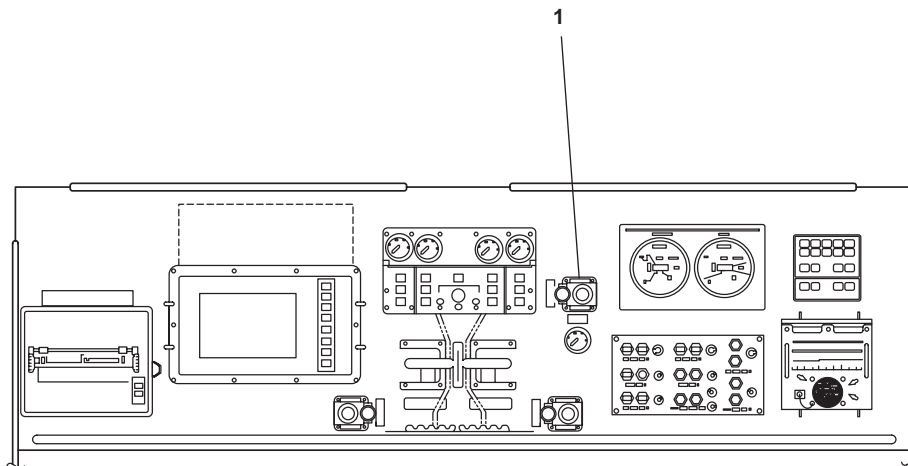

Figure 4. EOS Console
- c. At the EOS console, ensure that the COMMAND TRANSFER valve (figure 4, item 1) is UP in the REMOTE position.